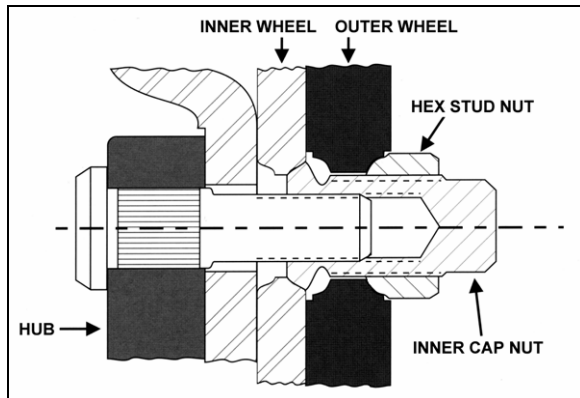

FIGURE 4: STUD-MOUNTED WHEELS
2. Screw in the inner cap nuts (Fig. 4), so that wheel will position itself concentrically with hub. Refer to Figure 2 for sequence;
With inner wheel installed, tighten the hex stud nuts (Fig. 4) using the single wheel installation procedure described previously.
1. Loosen a hex stud nut three turns (Fig. 4);